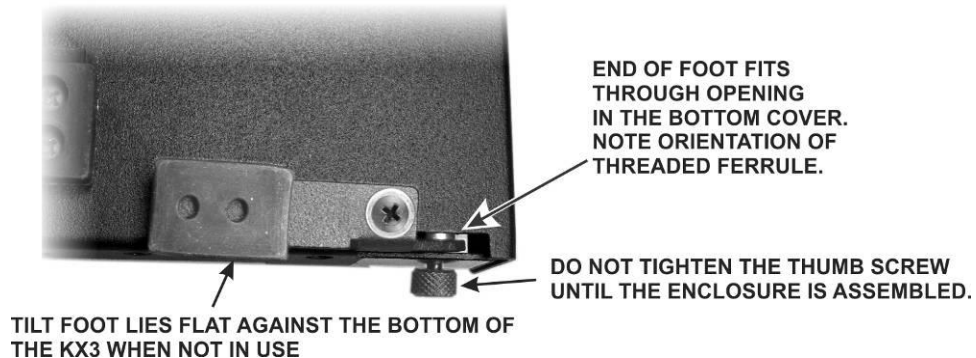

Figure 45. Installing the Tilt Feet in the Rear Cover.
□ Install the two tilt feet in the slots in the rear panel as shown in Figure 45. Do not tighten the thumb screws. Leave them loose until the front panel assembly is mounted.